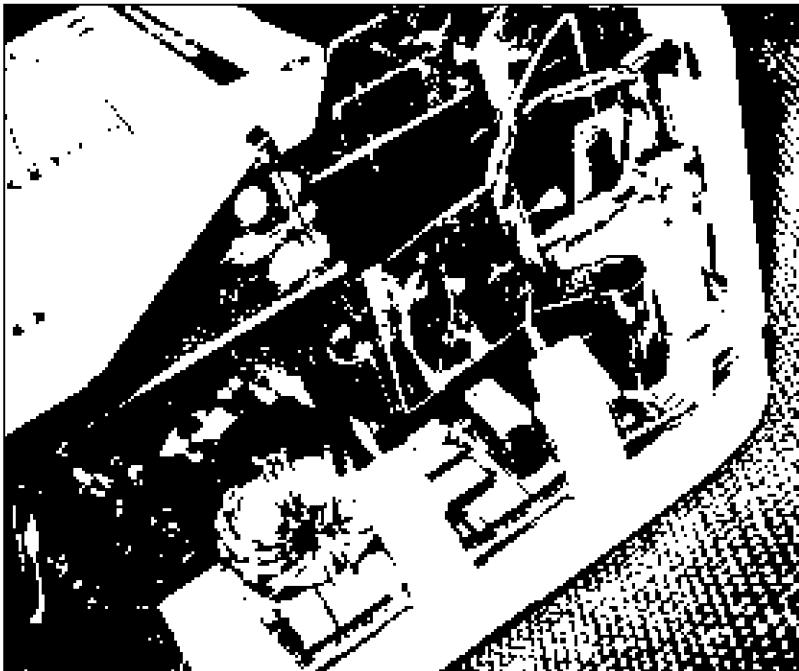

Figure 5-6:
1. **Pull back the yellow transparent tape on the right rear of the unit to release the power button cable, as shown in Figure 5-6.**
5. **If you have Bluetooth or AirPort, replace the antennas and refasten with the yellow tape (refer to Figure 5-6). For AirPort, use a plastic tool to slide the black tab on the rectangular portion of the antenna to lock it down.**